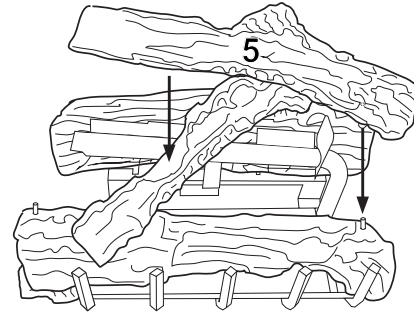

Figure 48 - Installing Log No. 5
5. Place log #5 (top log) onto right pin of front log (#2) and the smooth surface of crossover log (#4) as shown in Figure 48. Make sure it is seated properly.